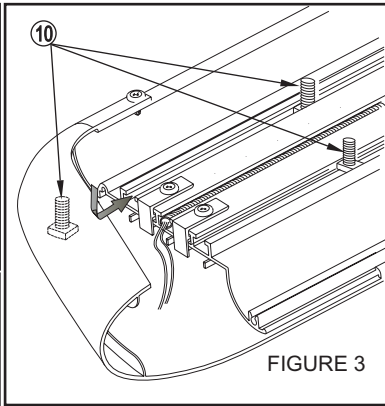
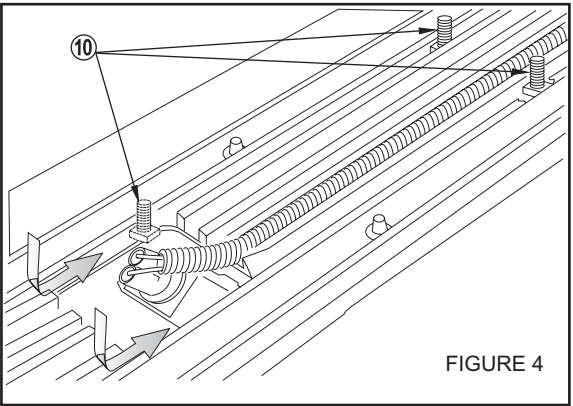

FIGURE 3
FIGURE 4
- STEP 4. Insert square head bolts as shown (4 per slot, 8 per board). **SEE FIGURES 3 AND 4. NOTE:** For lighted boards, run wiring harness prior to attaching board to brackets (refer to Step 4). Run longer wire harness on passenger side.
**HINT:** Molded Step Boards: For longevity, check rubber seals before installation. Rubber grommets around red and blue wires going into rear sockets, should be inserted and recessed about 1/4". **NOTE:** Remove bulbs and apply white grease into sockets and replace bulbs. Apply RTV Silicone where lights go into socket. Install lights and run wire loom as shown. **SEE FIGURE 4.** For Sure Grip Running Boards, run wire loom down center as shown. **SEE FIGURE 3.**